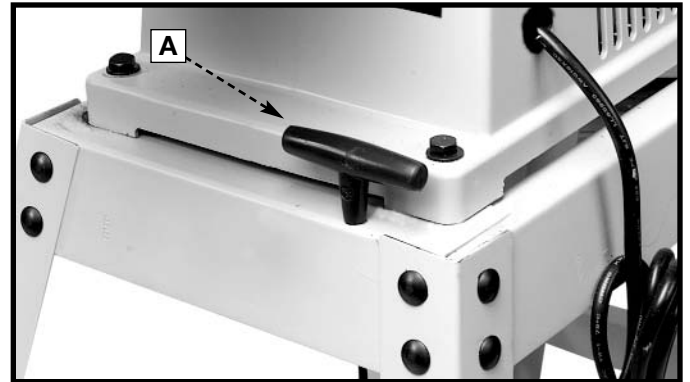

Fig. 35
A hole is provided in the stand for storing the hex wrench (A) Fig. 35, supplied with the sander.